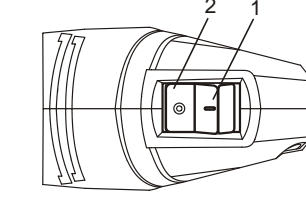

Fig. 6
To turn the saw ON, press the front of the ON/OFF switch (1) (Fig. 6). To turn the saw OFF, press the rear of the ON/OFF switch (2).